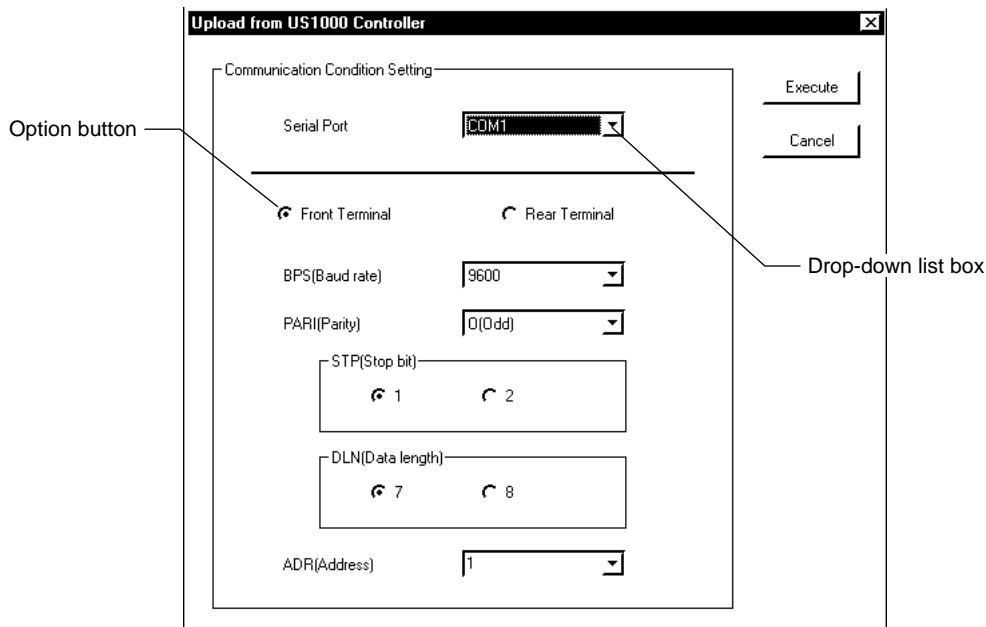

Figure 5.1.6 [Upload from US1000 Controller] Dialog Box
- ④ If you are configuring a custom display by uploading data from the US1000 controller, choose <Upload from US1000 Controller>. Click the <Upload from US1000 Controller> option button, then the <OK> button. The [Upload from US1000 Controller] dialog box (Figure 5.1.6) appears.
If you choose <Upload from US1000 Controller> in the [New/Modification] dialog box, the [Upload from US1000 Controller] dialog box (Figure 5.1.6) appears.